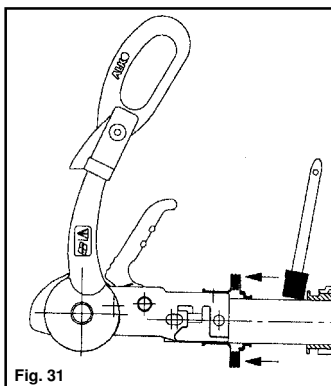

Fig. 31
- Lubricate the drawshaft sleeve via the grease nipples. In addition, push the gaiter forward and grease (DIN 51825 KTA 3K) the exposed part of the shaft (Fig. 31).